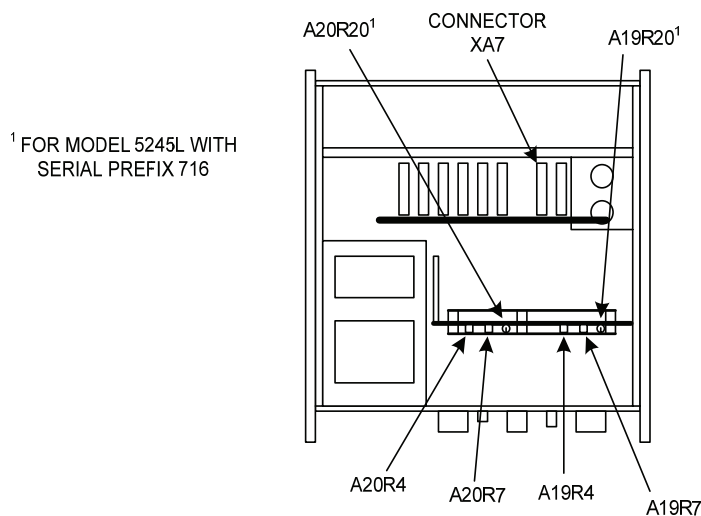

Figure 2. Electronic counter - bottom view.
- (1) Adjust signal generator amplitude output to 100 mV.
- (2) Adjust A19R20 or A19R7 (fig. 2) until a stable count is obtained on TI (R).
- (1) Position controls as listed in (a) through (c) below:
- (2) Connect multimeter to **EXT TIME BASE (50V MAX)** connector.
- (3) Adjust A20R4 (fig. 2) until multimeter indicates 0 ± 15 mV dc.
- (4) Set **OUTPUT** switch (located on rear panel) to **100 CPS**.
- (5) Connect **OUTPUT jack (rear panel)** to **SIGNAL INPUT AC** jack.
- (6) Connect signal generator output to **EXT TIME BASE (50V MAX)** jack, using a 50 Ω termination.
- (7) Adjust frequency of signal generator to 50 MHz and amplitude to minimum.
- (8) Slowly increase signal generator output until stable indication is obtained on TI. If signal generator output amplitude is greater than 100 mV, perform **b** below.
- (9) Repeat (7) and (8) above at signal generator frequency of 10 MHz.
- (2) Adjust A20R20 or A20R7 (fig. 2) until a stable count is obtained on TI (R).